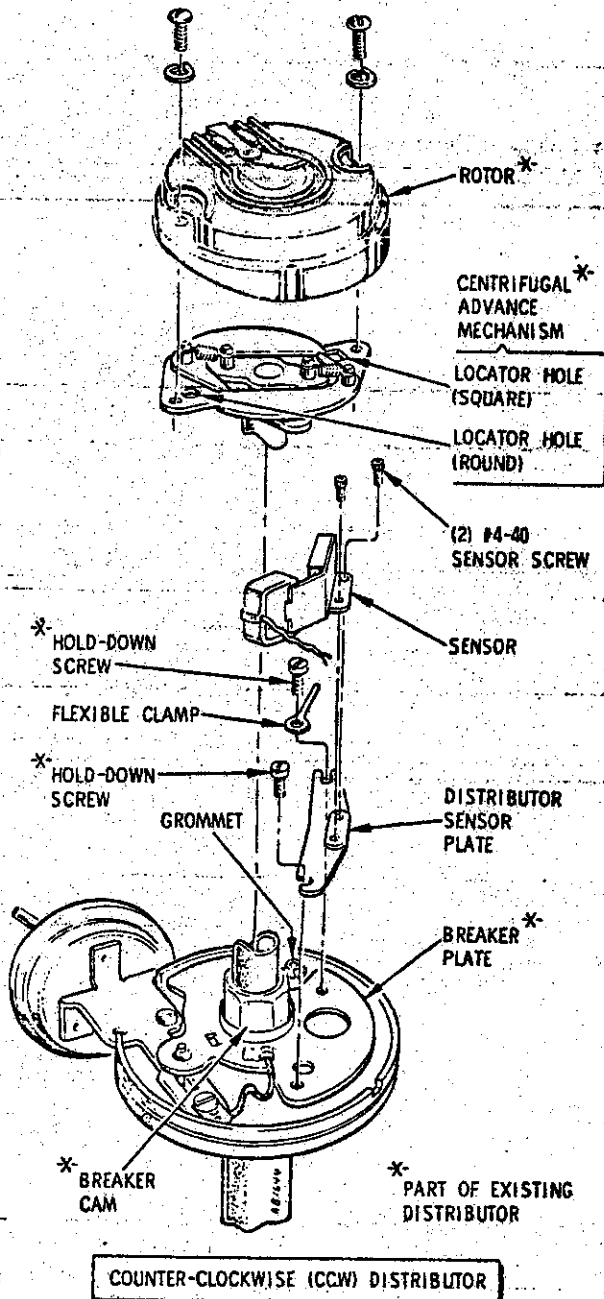

FIGURE 3
3. Securely mount distributor sensor plate to distributor breaker plate with hold-down screws, using existing mounting holes. Install flexible clamp as indicated by applicable illustration. Refer to Figures 1 and 2 for CW distributors, and Figures 3 and 4 for CCW distributors.